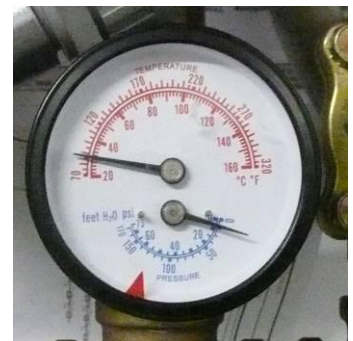

Figure 4
9. Verify the pressure and temperature of the water via the pressure/temperature gauge. See Figure 4 for a picture of the gauge.